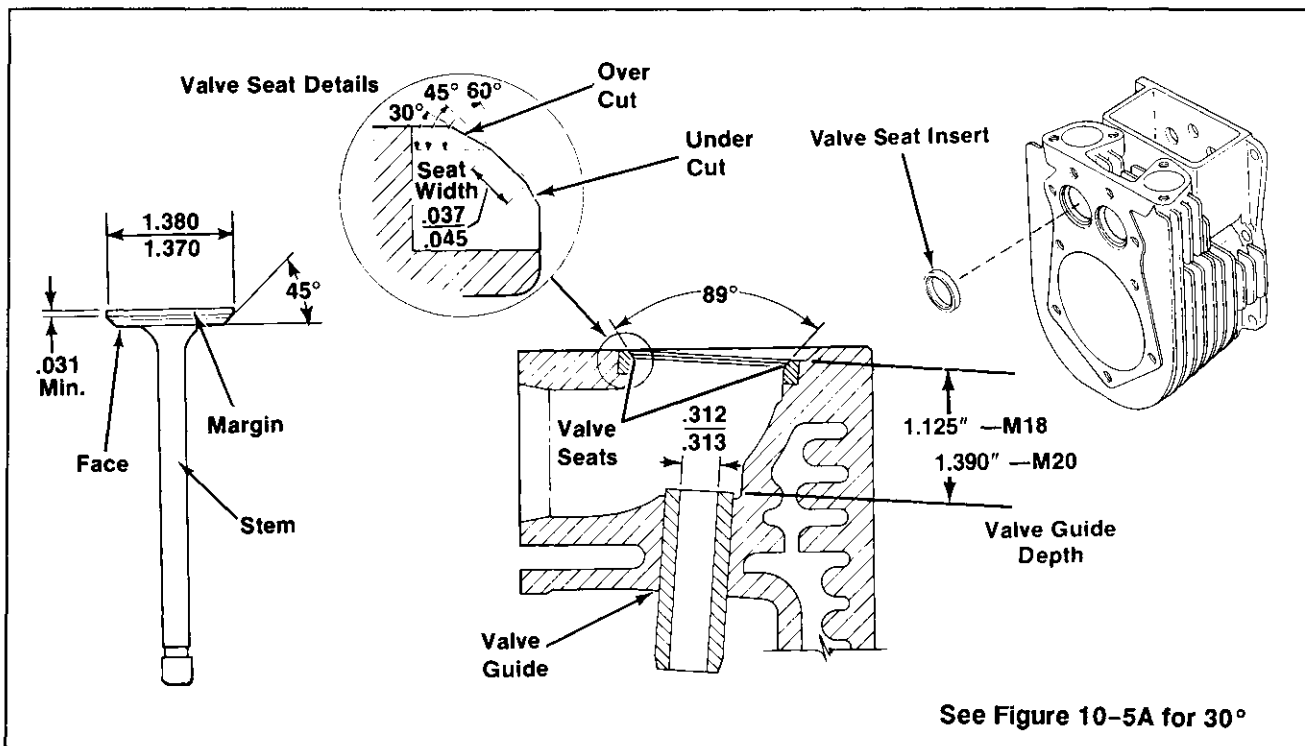

Figure 10-5. Valve Details (45° Angle).
Carefully inspect valve mechanism parts. Inspect valve springs and related hardware for excessive wear or distortion. Valve spring free height should be approximately 1.68" (1-11/16"). Check valves and valve seat area or inserts for evidence of deep pitting, cracks, or distortion. Check clearance of valve stems in guides. See Figure 10-5 for valve details and specifications for 45° angle or 10-5A for the new 30° exhaust valve. See page 10.4.
3. Use a standard valve seat cutter (see Figure 10-10) and cut seat to dimensions shown in Figure 10-5.